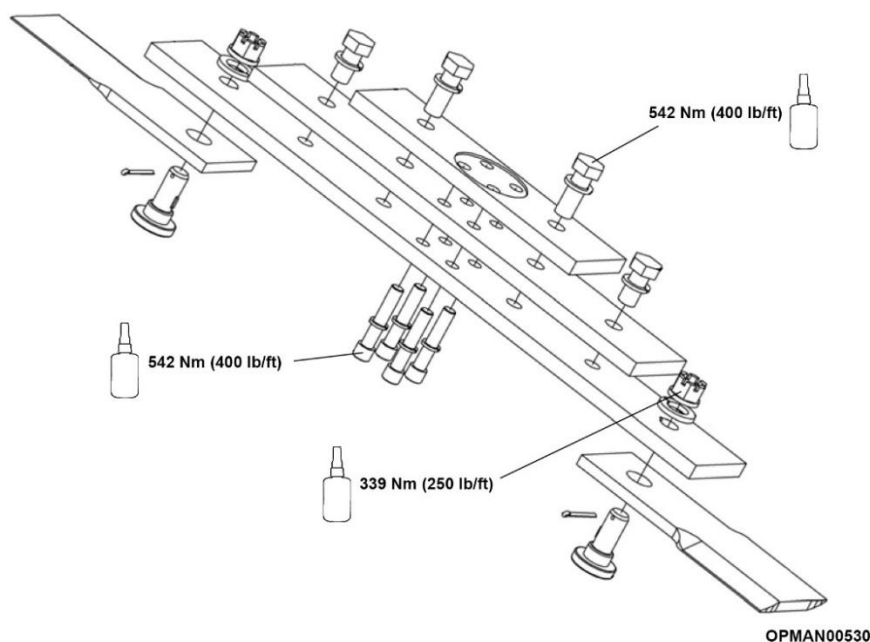

Figure 5.1
- 5.2.2.7 Install new blade bolts using a medium strength thread-locking adhesive (Loctite 242 or equivalent) on the threads and torque to settings given in Figure 5.1.
- 5.2.3.3 Lower the blade bar assembly and disassemble the components required following the assembly diagram guidance in Figure 5.1.